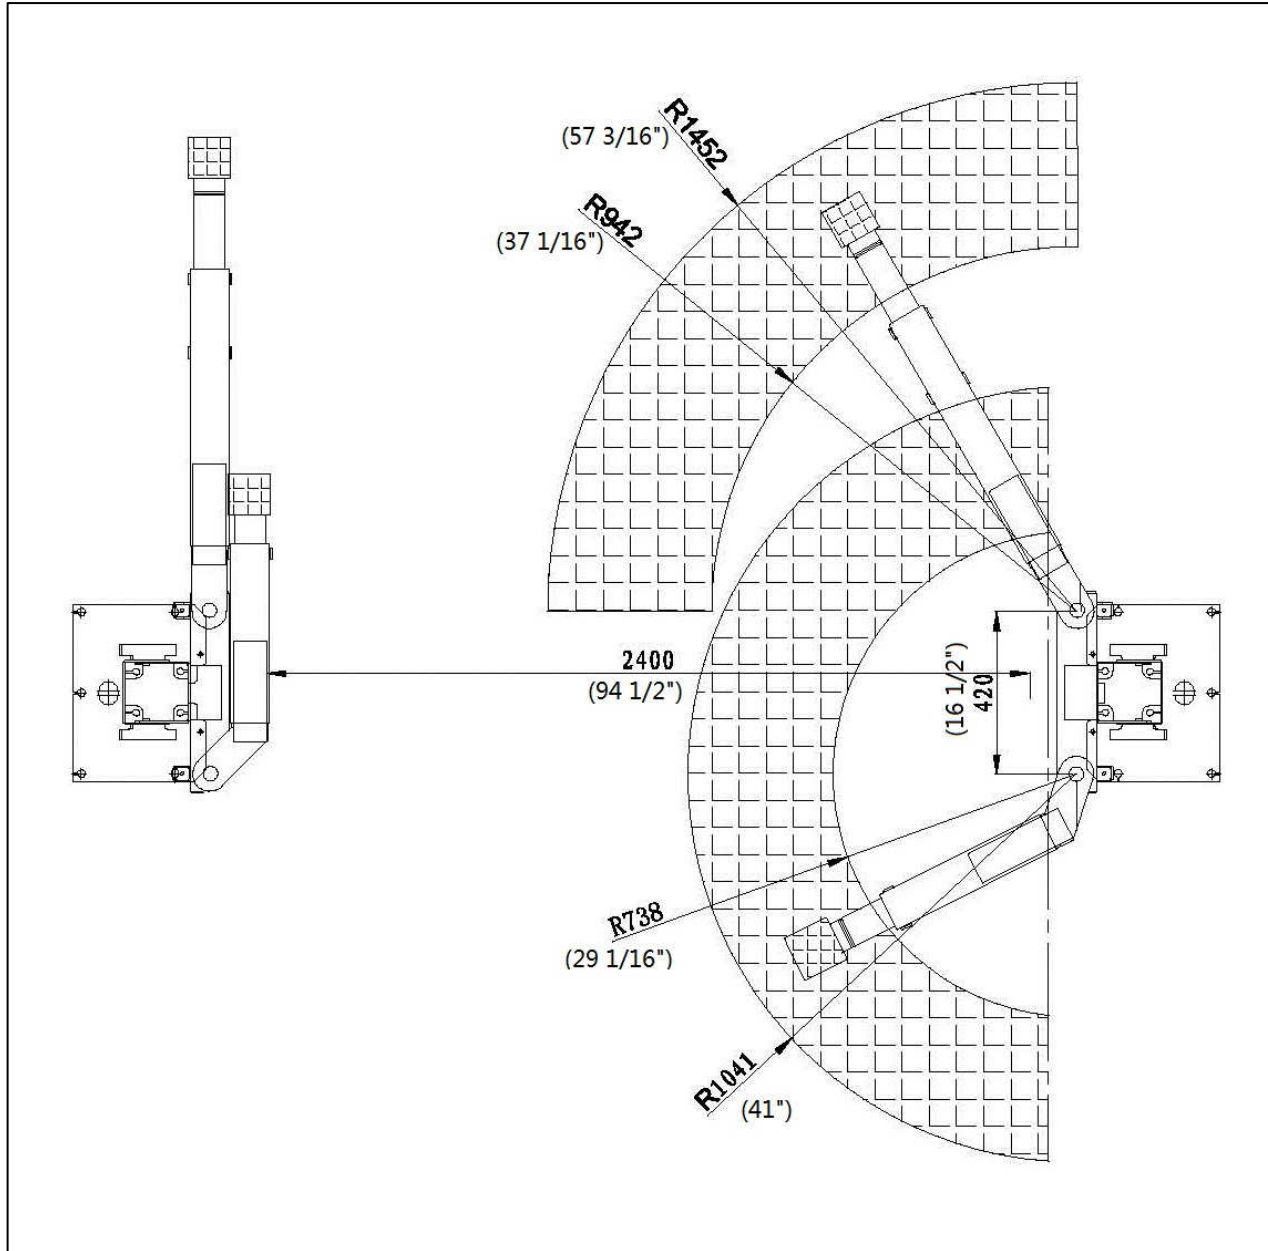
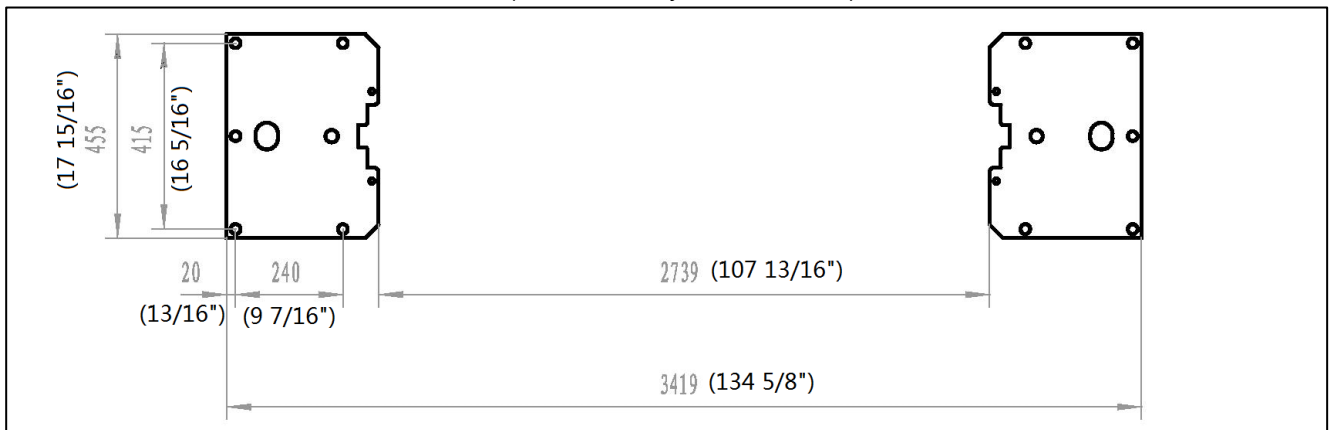

Fig. 2a
Fig. 3
1. **LIFT LOCATION:** Always use architects plans when available. Check layout dimension against floor plan requirements making sure that adequate space is available (**Fig. 2a, 2b & Fig. 3**).
3. Once a location is determined, use a carpenter's chalk line to layout a grid for the post locations. (**See Fig. 3**)